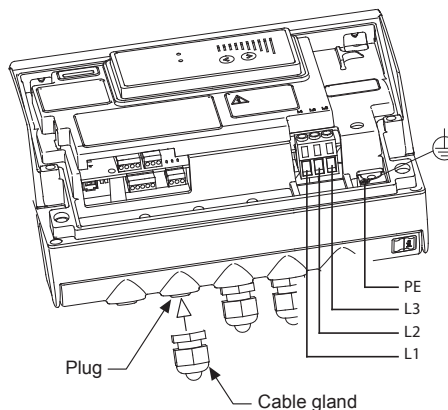

Fig. 33 Connecting cable gland to plug
- a. Remove the plug from each MLE casing with a flat head screw driver (see fig. 33).
- b. Thread a new cable gland into each MLE casing with a crescent wrench (see fig. 33).
- i. Tighten the new cable gland cap to secure the cable (see fig. 33).